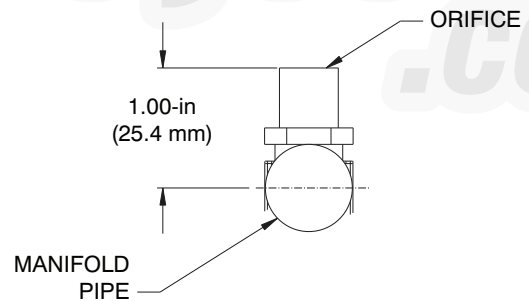

Fig. 50 - Orifice Projection
Orifice projection — Refer to Fig. 50 for maximum projection dimension for orifice face to manifold tube.
7. Remove the two screws attaching the burner rack to the vestibule plate (Fig. 50).
5. If factory orifice has been removed, check that each orifice is tight at its threads into the manifold pipe and that orifice projection does not exceed maximum valve. See Fig. 50.
10. Turn off unit, remove pressure manometer and replace the 1/8 in. pipe fitting on the gas manifold. (See Fig. 50.)